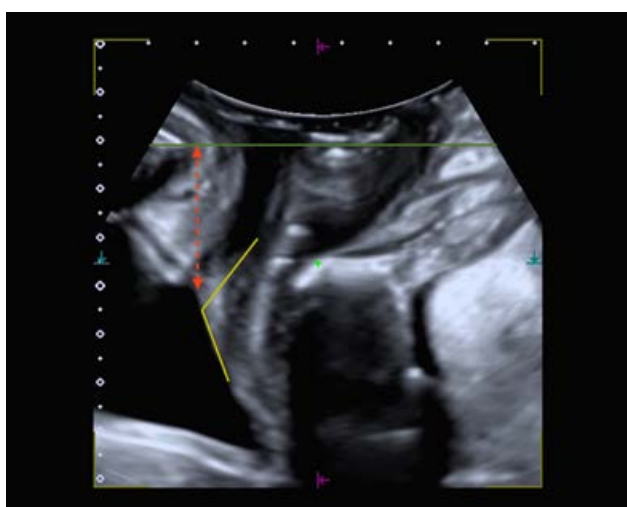

Figure 4, It includes the bladder neck-pubic symphysis distance (red) and the retrovesical angle (yellow).
- Bladder neck-pubic symphysis distance: vertical distance (dashed red line in Fig. 4) between the bladder neck and an imaginary horizontal line (green line in Fig. 4) passing by the posteroinferior edge of the pubic symphysis (Fig. 4). This constitutes the most analysed and reproducible parameter for the evaluation of the urethra mobility in patients with SUI. Nevertheless, it is difficult to establish a definable cut-off point to diagnose SUI; therefore, it must be studied considering the clinical context of the patient.
- Retrovesical or posterior urethrovesical angle: angle defined in between the proximal axis of the urethra and the closest portion to the urethra of the posterior bladder wall (yellow lines in Fig. 4). This parameter does not have a definable cut-off point either to determine SUI. However, it is useful in the diagnosis of Pelvic Organ Prolapse (POP) of the anterior compartment.